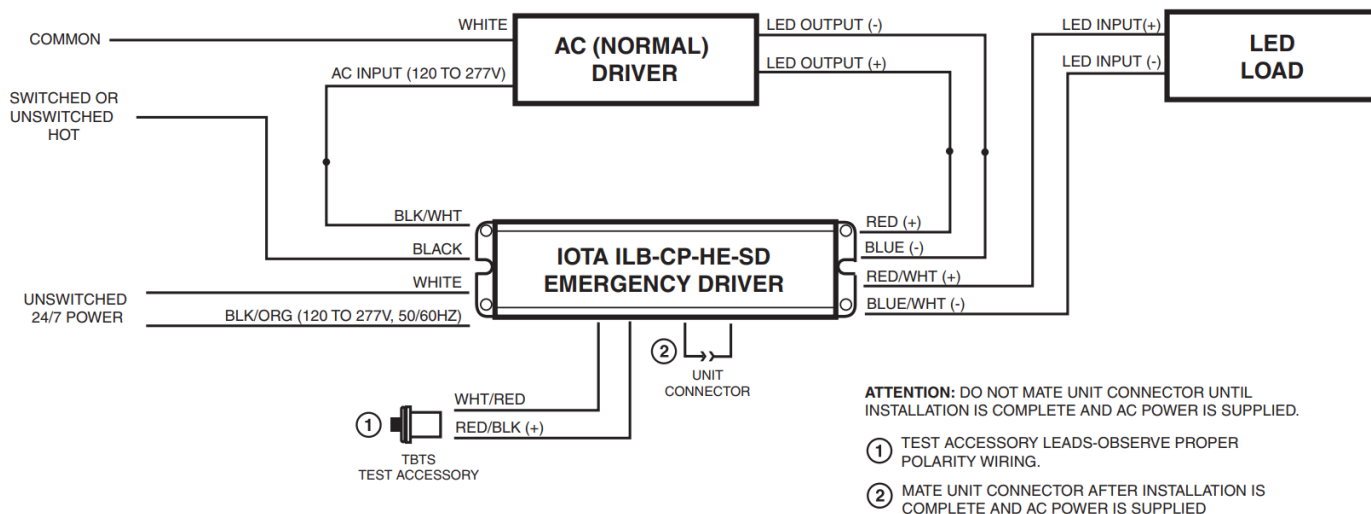

Figure 12: Iota Wiring Diagram
4. Make all the correct electrical connections for the battery shown in Figure 12 & 13.